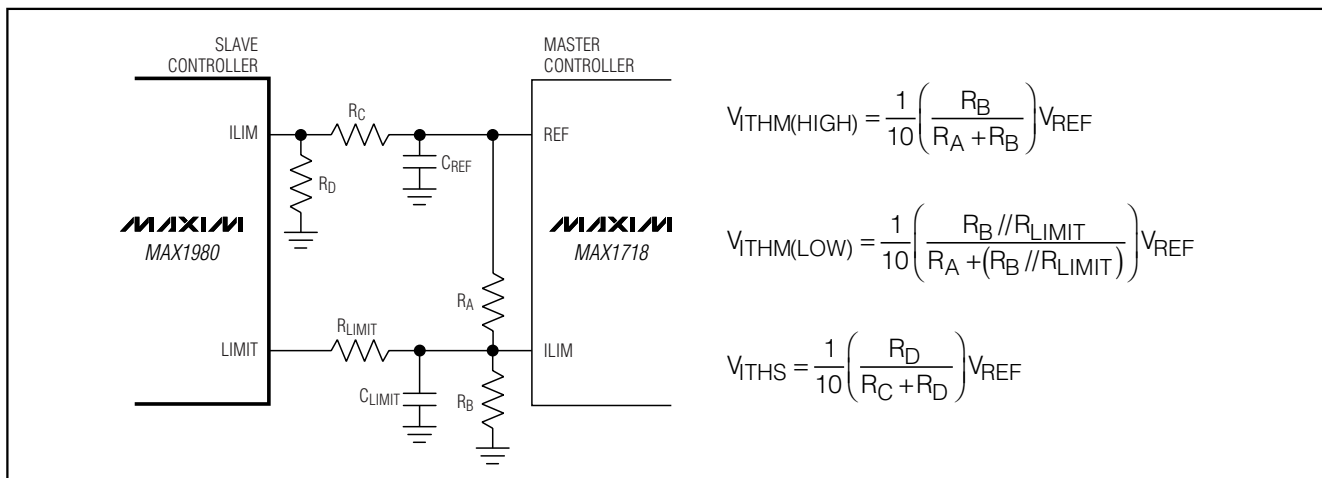

Figure 5. Setting the Adjustable Current Limits
where  $V_{ITHM}$ , the master's current-limit threshold, is typically 1/10th the voltage seen at the master's ILIM input ( $V_{ITHM} = 0.1 \times V_{LIM(MASTER)}$ , see the master controller's data sheet). Connect a resistive voltage-divider from the master controller's internal reference to GND, with the master's ILIM input connected to the center tap (Figure 5). Use 1% tolerance resistors in the divider with 10µA to 20µA DC bias current to prevent significant errors due to the ILIM pin's input current:
where  $V_{ITHS}$ , the slave's current-limit threshold, is precisely one-tenth the voltage seen at the slave's ILIM input ( $V_{ITHS} = 0.1 \times V_{LIM(SLAVE)}$ ). Connect a second resistive voltage-divider from the master controller's internal reference to GND, with the slave's ILIM input connected to the center tap (Figure 5). The external adjustment range of 400mV to 1.5V corresponds to a current-limit threshold of 40mV to 150mV. Use 1% tolerance resistors in the divider with 10µA to 20µA DC bias current to prevent significant errors due to the ILIM pin's input current. Reducing the current-limit threshold
Now select the resistive-divider values ( $R_A$  and  $R_B$  in Figure 5) to set the appropriate voltage at the master's ILIM input:
Select the resistive-divider values ( $R_C$  and  $R_D$  in Figure 5) to set the appropriate voltage at the slave's ILIM input:
- 4) Determine  $R_{LIMIT}$  (Figure 5) from the above equation: